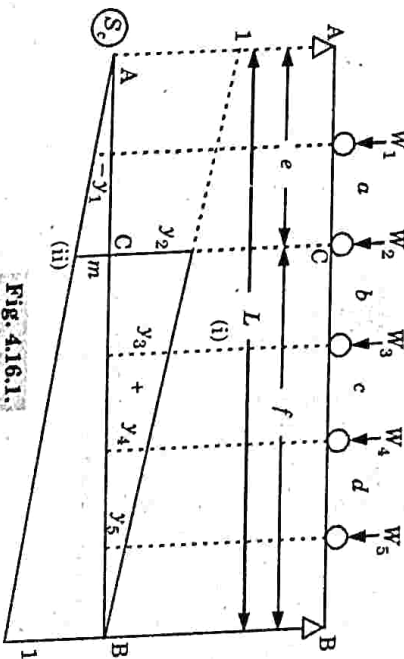

Fig. 4.16.1.
Consider the loads shown in Fig. 4.16.1. Let the given section be C. The ILD for  $S_c$ , the shear force at C, is shown in Fig. 4.16.2.
- Let the loads move by a small distance  $dx$  towards the left from their position shown in Fig. 4.16.1.